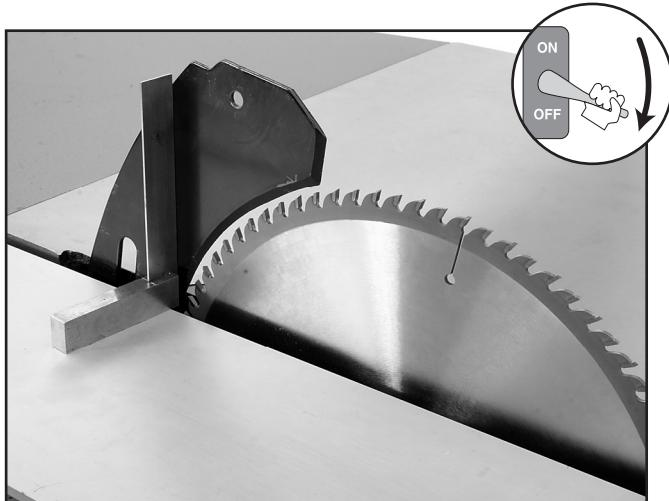

Figure 36. Checking vertical alignment.
- Place a machinist's square flat on the table and slide it against the riving knife as shown in **Figure 36**.